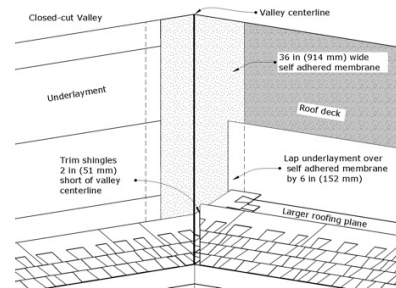

Figure 9
- Apply the shingle courses on the opposite roof face (right side as drawn) and trim the valley shingles 2 inches (51mm) back from the centerline of the valley. Crop the tops of each valley shingle on this side with a 1 inch (25mm) 45° cut. See Figure 9.